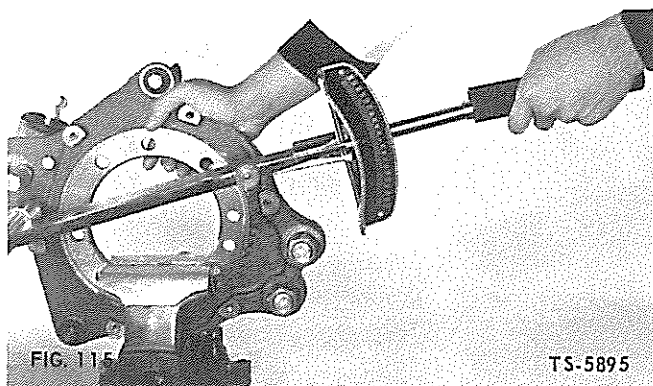

FIG. 115
3. Install cylinder on brake disc with bolts and lock-washers (Fig. 115). Tighten to torque specifications.